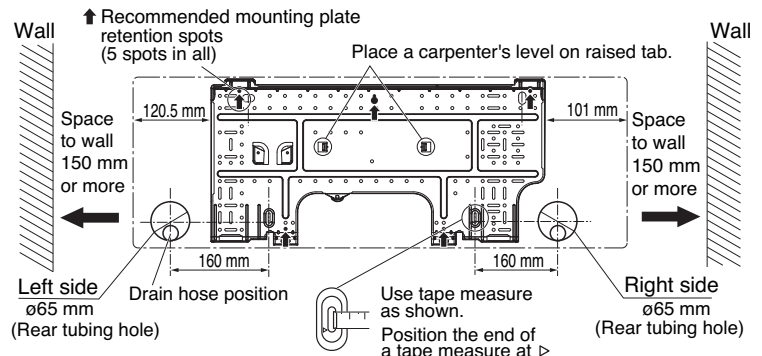

Fig. 11
- (1) Install the rear panel horizontally using a carpenter's level or inclinometer. Since the unit was designed for water drainage to either the left or right direction, depending on the outlet side you require provide a slight downward gradient to ensure adequate drainage of the water pan in the correct direction. (Fig. 11)
- (2) Fix the rear panel to the wall using screws required for the wall type. Use plaster board fasteners / toggle bolts for hollow walls.
- (3) Be sure to affix the rear panel securely enough to hold the weight on an adult (at least 60 kg), with attachment screws spaced to evenly divide the weight of the unit.